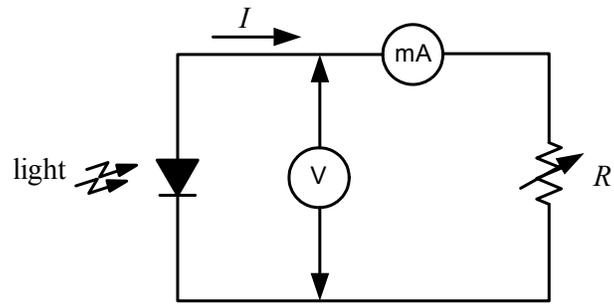

Fig. 11 Circuit diagram for measuring  $I$ - $V$  characteristic of a solar cell.
- 2) Connect the circuit in Fig. 11, apply the solar cell with a constant light source. Vary the value the adjustable resistor to find  $I_{sc}$ ,  $V_{oc}$  and other data with the digital voltmeter and ammeter.